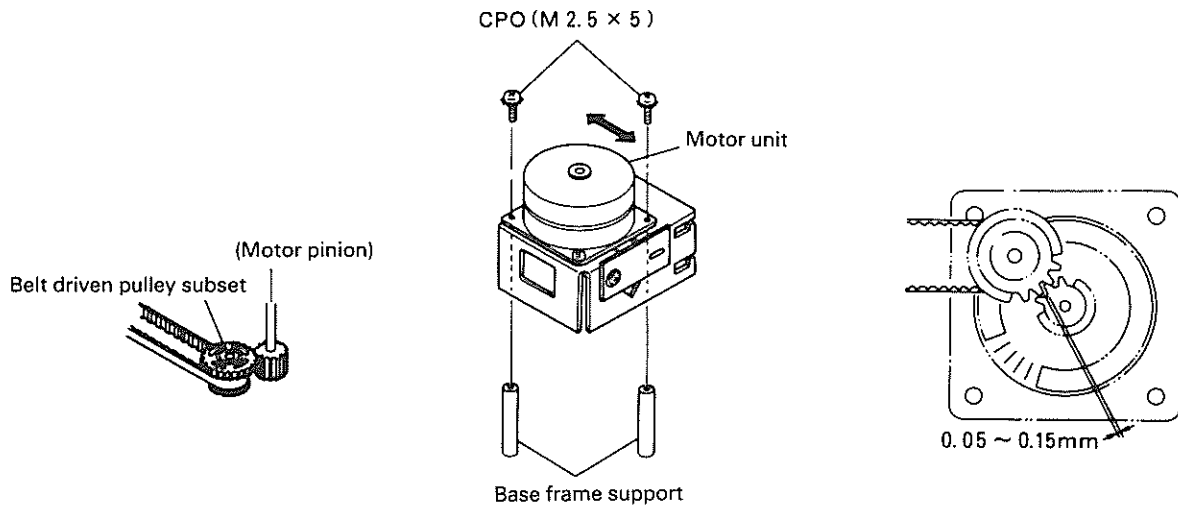

Fig. 4-25. Carriage Motor Adjustment
4.4.2 CARRIAGE MOTOR ADJUSTMENT (Fig. 4-25)